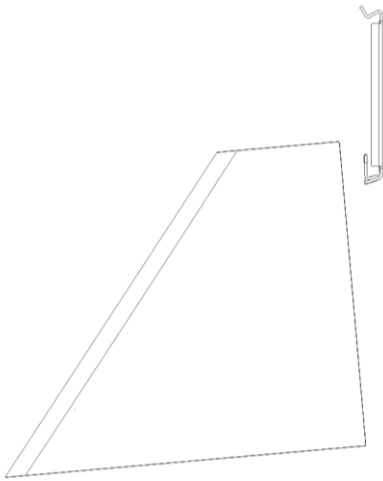
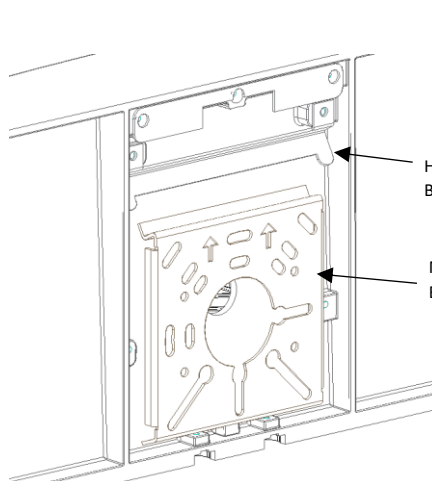
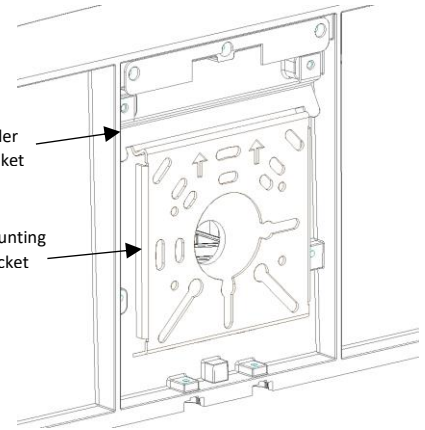

Figure 5
Figure 6
Figure 7
6. Tilt the top of the fixture towards you and lift the fixture upwards so that the mounting bracket rests on the holder bracket (Figure 5, Figure 6, and Figure 7). Ensure the fixture is centered on this bracket.